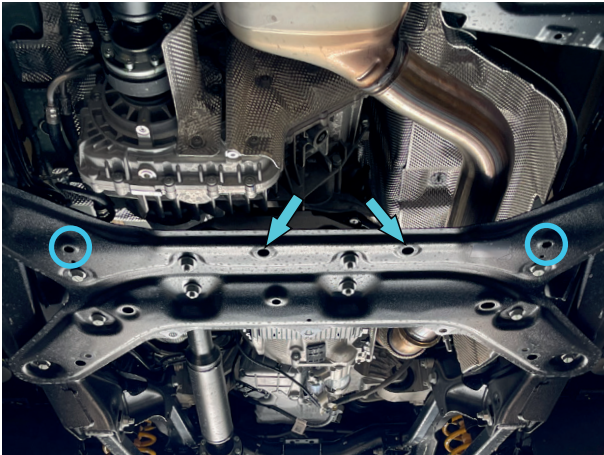

Fig. 1
1. Install insert nuts M10 with wire (item A) into side holes through center holes (fig. 1).